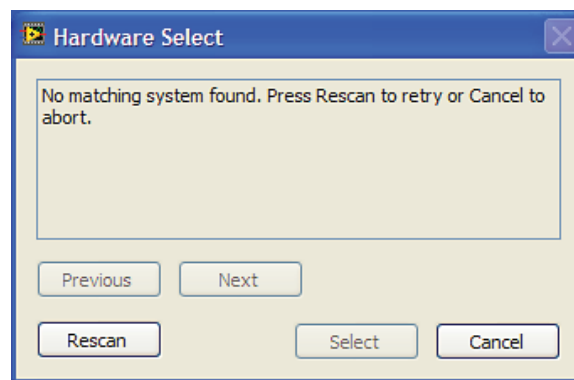

Figure 14. Connectivity Error Alert
- If the **EVAL-AD7091SDZ** board is not connected to the USB port via the **EVAL-SDP-CB1Z** when the software is launched, a connectivity error displays (see Figure 14). Connect the evaluation board to the USB port of the PC, wait a few seconds, click **Rescan**, and follow the instructions.